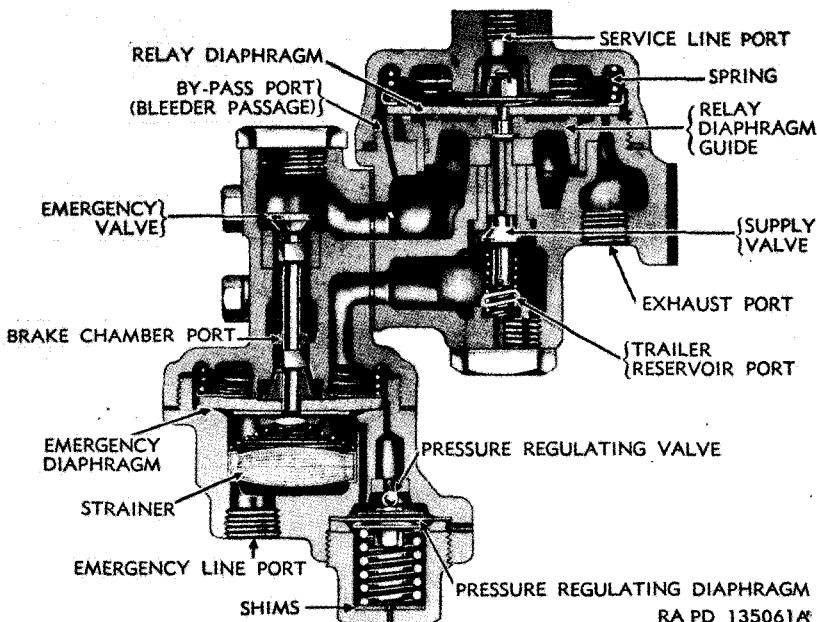

Figure 139. Sectional view type RE relay-emergency valve.
(3) *Types RE-1 and RE-1C* (figs. 137 and 138). These valves differ somewhat in construction from the RE valves although the functions are the same. Construction differences will be apparent on reference to sectional views of the three types (figs. 139, 140, and 141). Types RE-1 and RE-1C differ only in manner of installation on vehicle. RE-1 valves are attached directly to trailer reservoir, making supply line from trailer reservoir to valve unnecessary. RE-1C valves are independently mounted, the reservoir port in mounting flange being plugged and supply line from reservoir connected to valve.
(fig. 139), lifts the check valve (fig. 141), and flows over the top of the emergency diaphragm into the supply line to charge the trailer reservoir. At the same time, air has also been flowing below the emergency diaphragm and into the cavity above the pressure-regulating diaphragm. Air continues to flow in this manner until air pressure in the cavity above the pressure-regulating diaphragm reaches approximately 70 pounds.